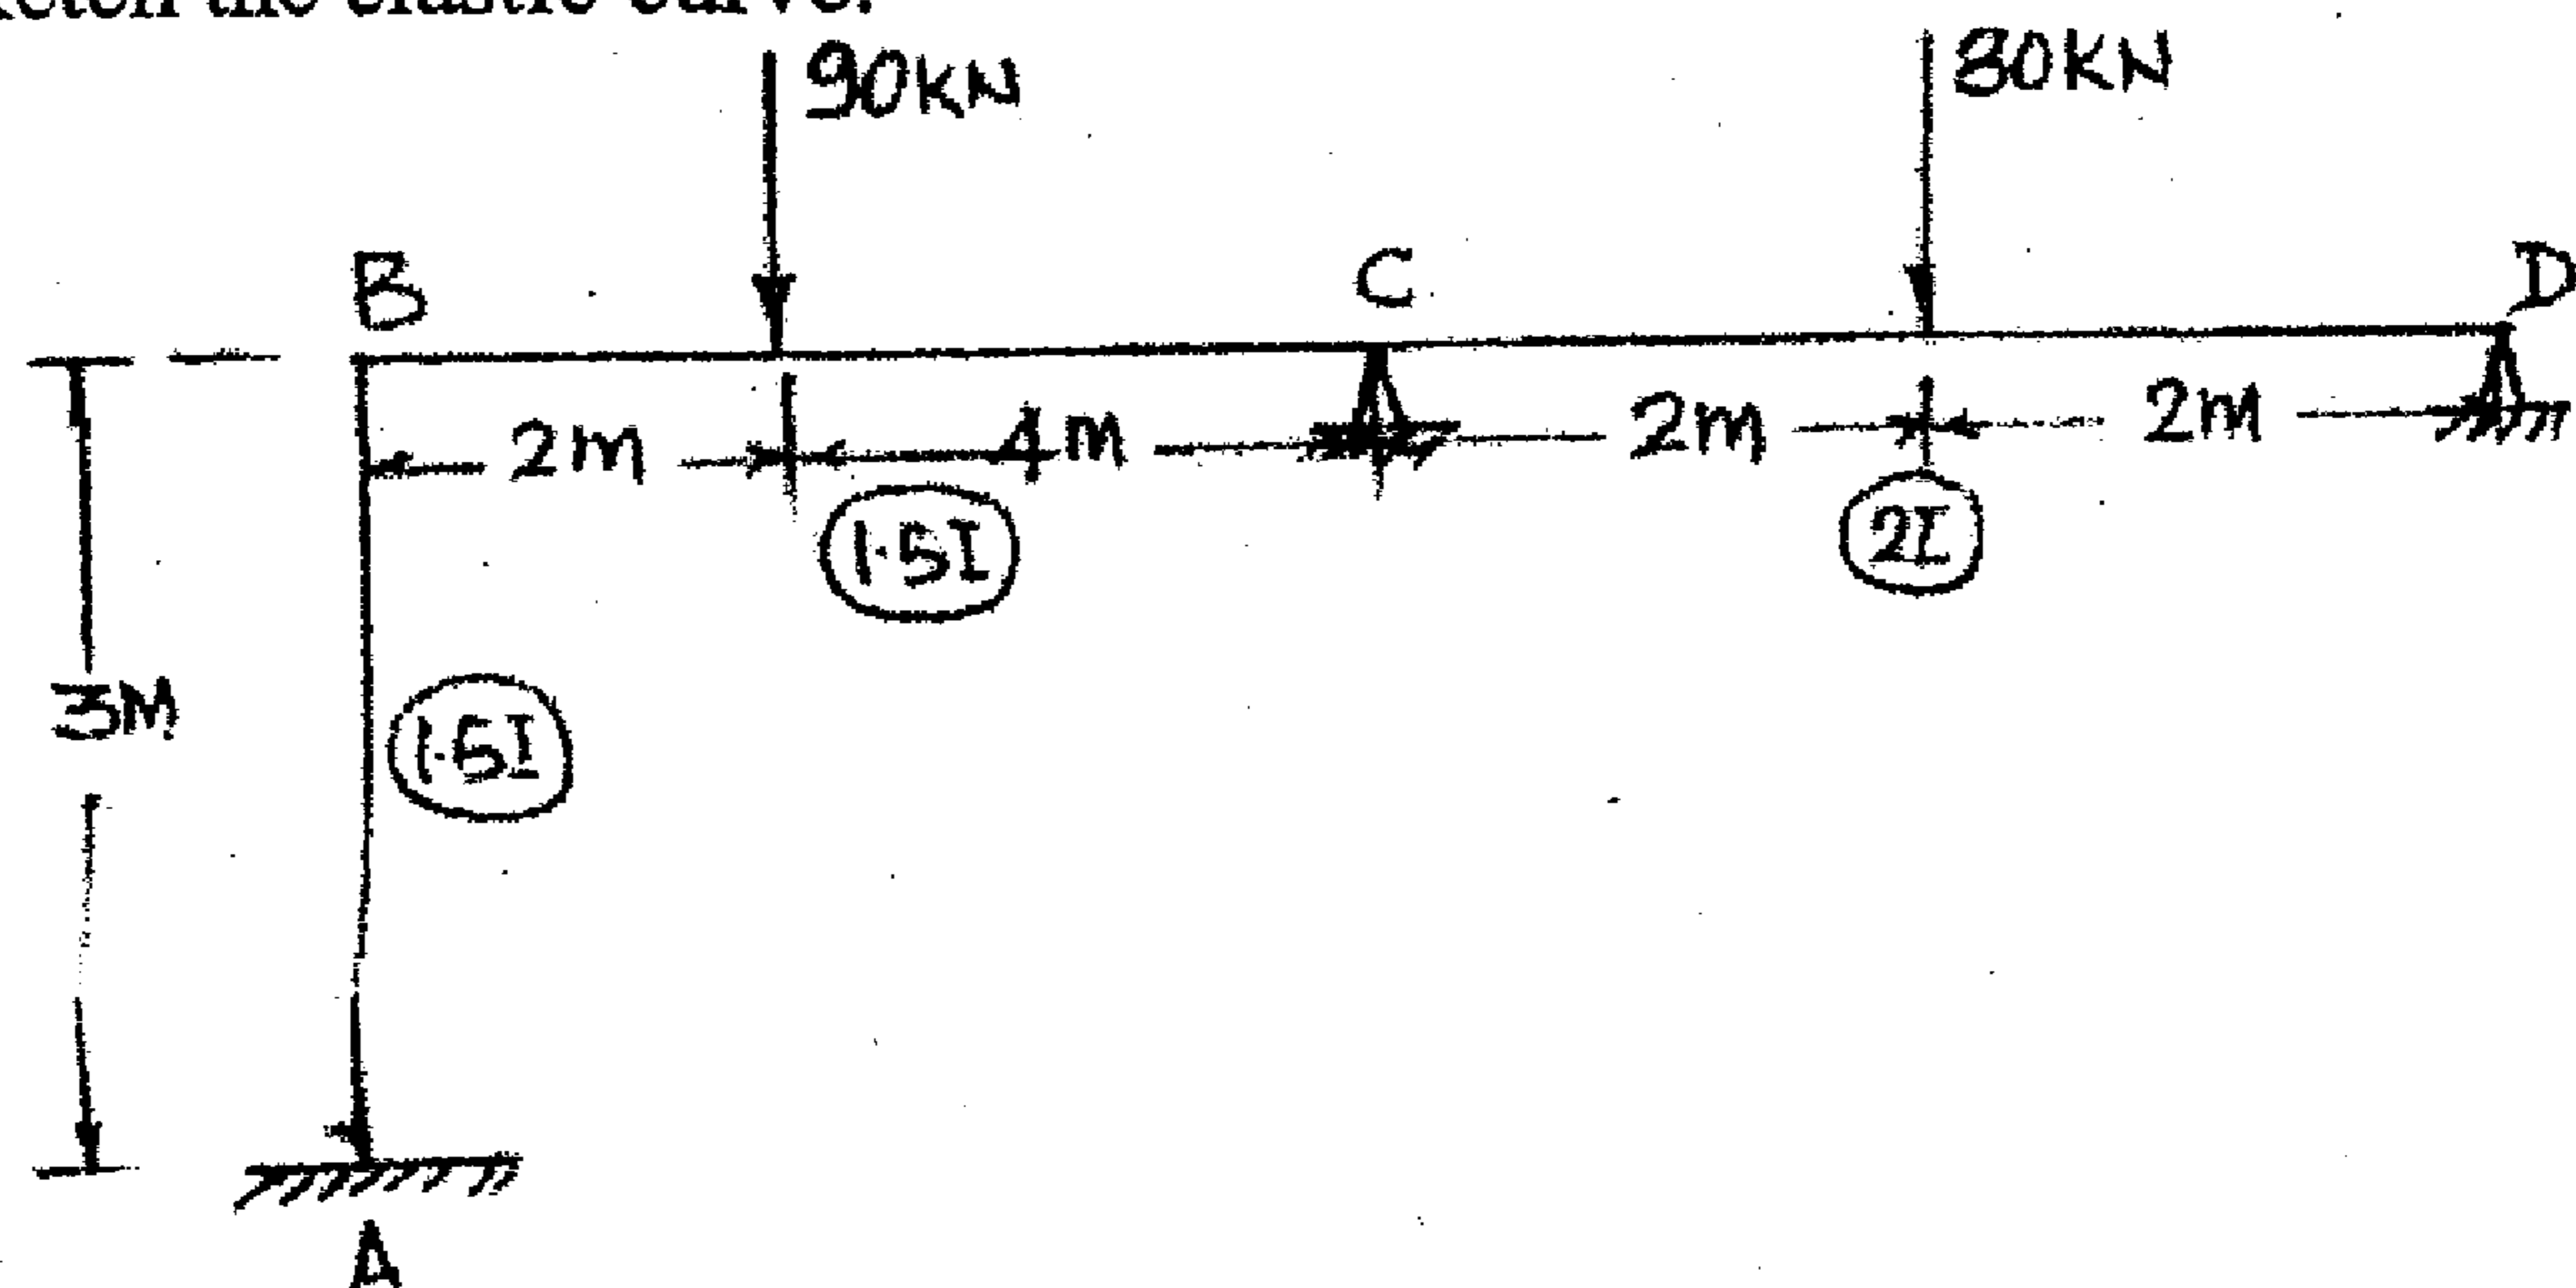

Fig. Q3
- 3 Analyse the frame shown in figure Q3 by moment distribution method. Hence draw B.M.D., S.F.D. Also sketch the elastic curve. (20 Marks)